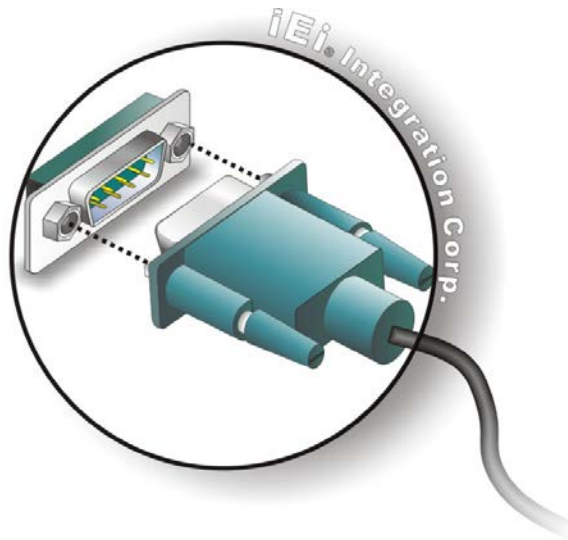

Figure 3-20: Serial Device Connector
- Step 2:** Insert the serial connector. Insert the DB-9 connector of a serial device into the DB-9 connector on the external peripheral interface. See Figure 3-20.